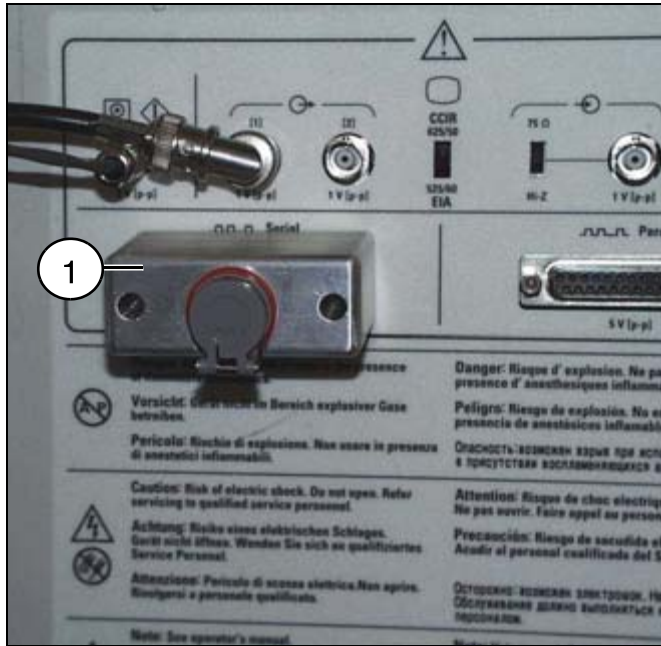

Fig. 60: SONOLINE Adara
- Secure the connector adapter (1/ Fig. 60 / p. 58) to the serial interface.